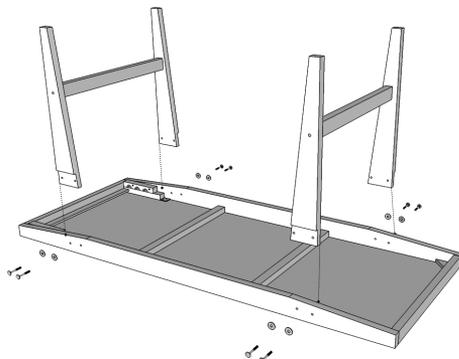

Fig. 9
3. Open the Pluriball packing. Unscrew and remove the nuts and washers from the bolts. Turn the couch upside down. Insert the legs in their seats using the numbering on the legs as a guide. Insert the bolts as shown in Fig.9. Fit and tighten the nuts.